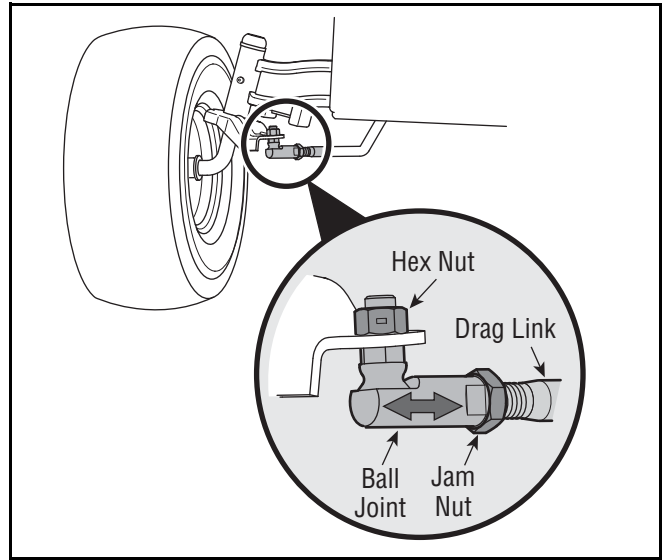

Figure 16
1. Loosen the jam nut found on the drag link at the rear of the ball joint. See Figure 16 .
2. Remove the hex nut on the top of ball joint. See Figure 16 .